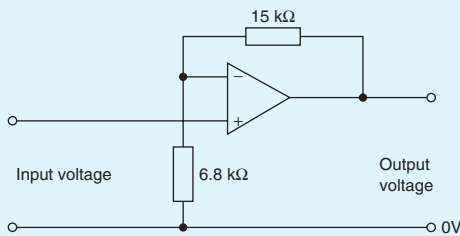

Figure 19.18
1. If the input voltage for the op amp shown in Fig. 19.18, is  $-0.5\text{ V}$ , determine (a) the voltage gain (b) the output voltage